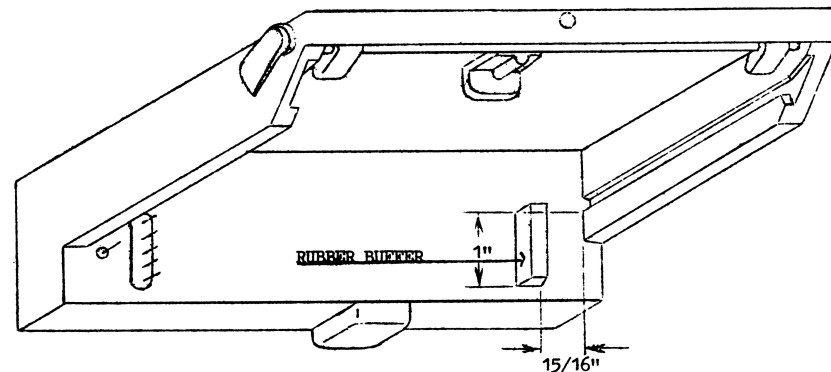

FIGURE 2
- (b) Attach buffer to power cradle in the position shown in FIG.2 using a suitable contact adhesive.